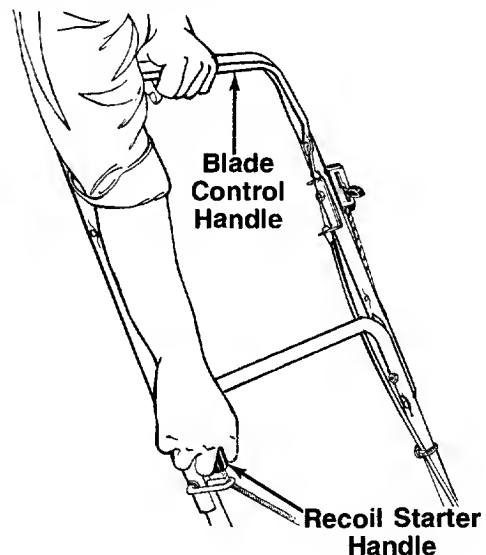

FIGURE 14.
4. Standing behind the unit, depress the blade control handle and hold it against the upper handle as shown in figure 14.